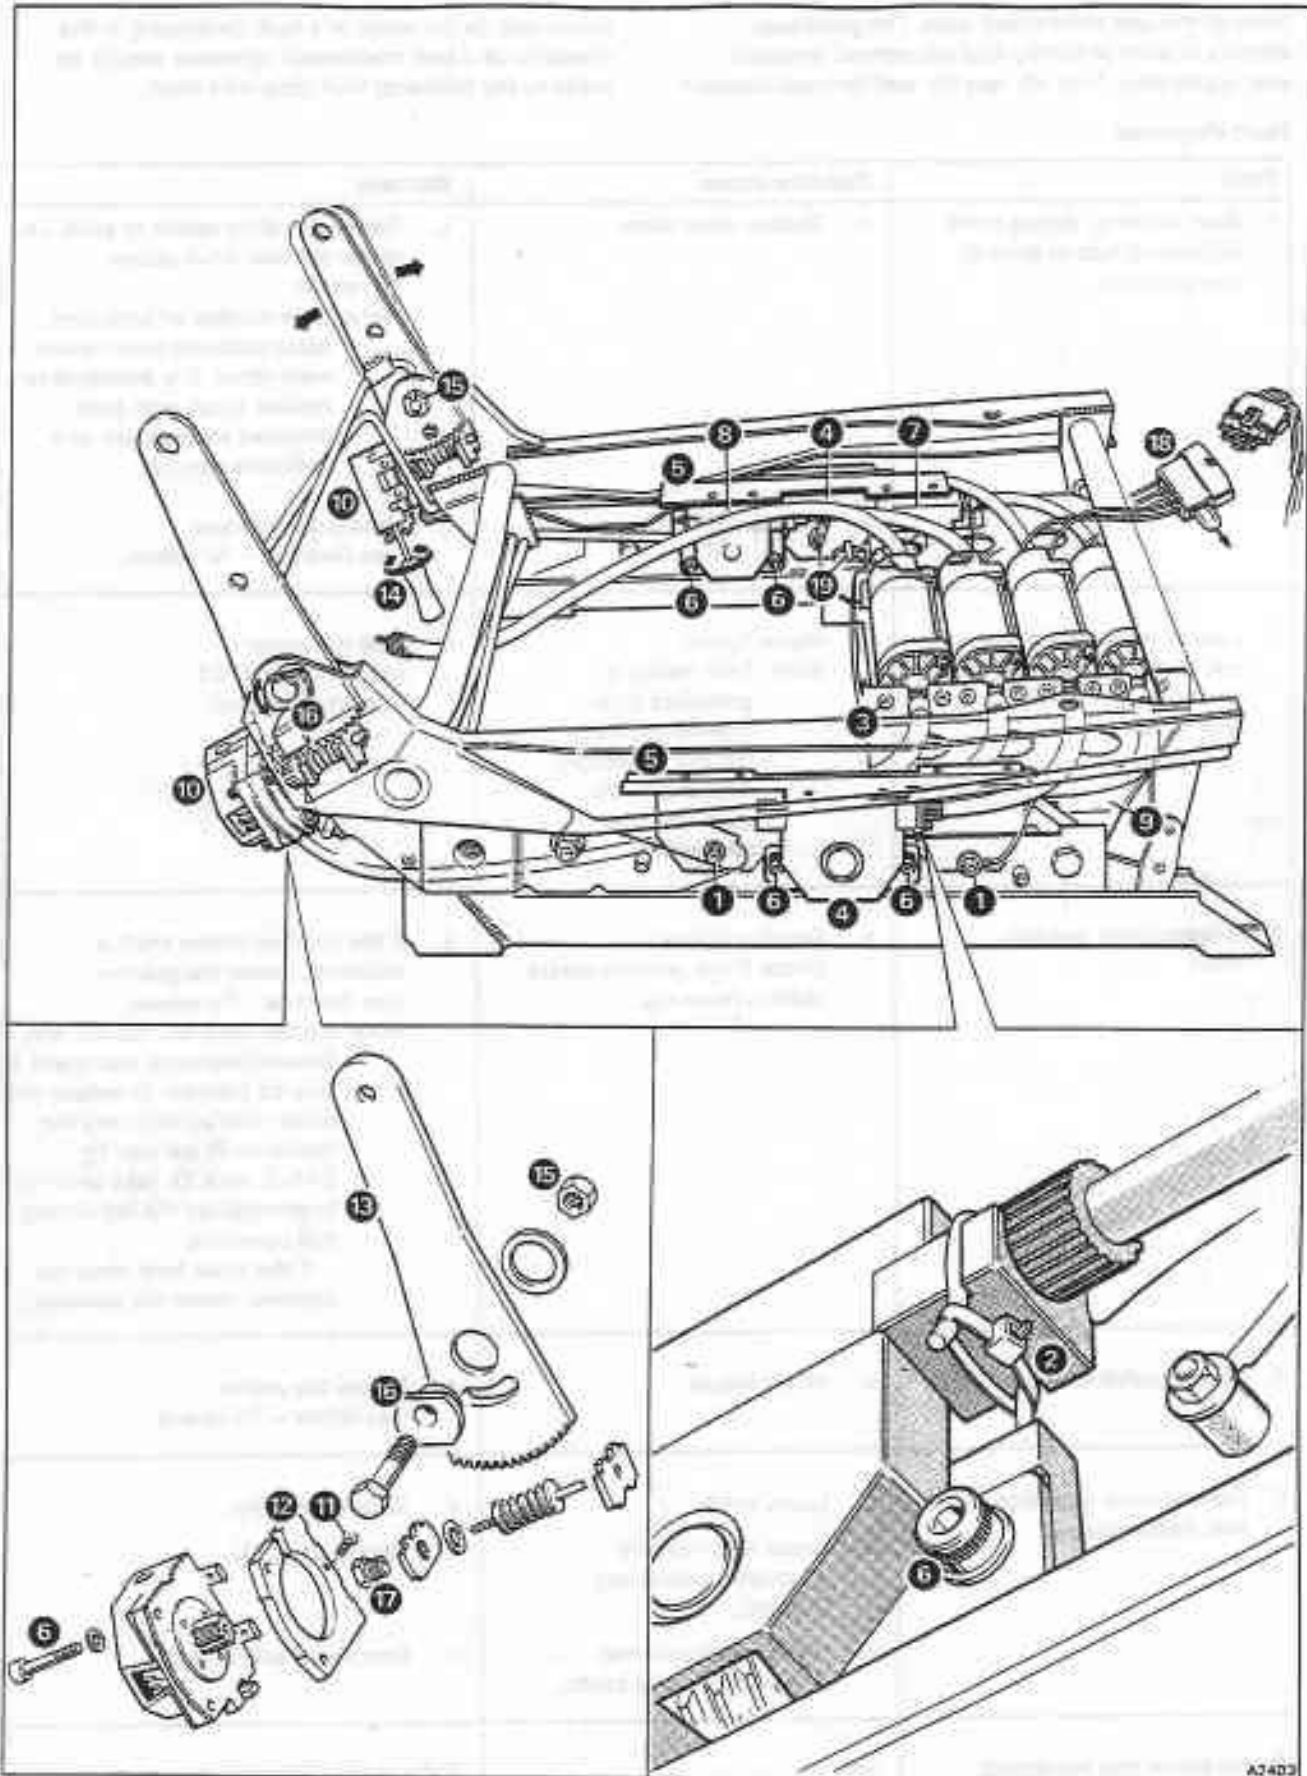

Fig. S13-2 Front seat mechanism
Drive cables – To renew (see fig. S13-2)
Forward and rearward movement gearbox – To renew (see fig. S13-2, item 4)
4. Unscrew and remove the plastic gearbox cover (item 5).
5. Cut and discard the plastic cable tie (item 2) and remove the drive cable securing clip.
Front tilt gearbox/rear tilt gearbox – To renew (see fig. S13-2, items 7 and 8)
5. If the front tilt gearbox (item 7) is to be renewed, release the motor mounting bracket (item 9) from the seat mechanism slide.
6. Cut and discard the plastic cable tie (item 2) and remove the drive cable securing clip. Note that a new cable tie must be fitted on assembly.
8. Remove the gearbox centre shaft nut, washer, and spacer (item 1) and release the sensor earth lead (if fitted).
10. Remove the gearbox securing bolts, nuts, and washers (item 6).
Seat rake gearbox – To renew (see fig. S13-2, item 10)
5. Cut and discard the plastic cable tie (item 2) and remove the drive cable securing clip. Note that a new cable tie must be fitted on assembly.
7. Remove the gearbox securing bolts, nuts, washers, and self-tapping screw (items 6 and 11).
8. Carefully withdraw the gearbox and spacer assembly. Unscrew and remove the spacer (item 12) and discard the gearbox.
Seat mechanism twist – To correct (see fig. S13-2)
Seat squab rake adjustment (see fig. S13-2)
Motor – To renew (see fig. S13-2)
Seat memory electronic control unit (if fitted) – To renew (see fig. S13-2)